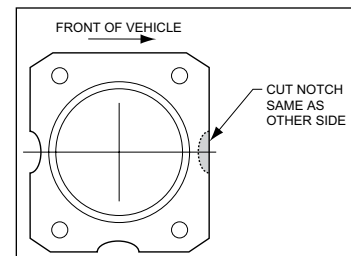

Figure 4. Flange Modifications
- Minor modifications to the axle flange may be required, see text and Figure 4 on page 4.
Axle housing flange may need to be modified by grinding. A relief, the same dimension as the OEM relief at the rear of the housing must be present at the front (of vehicle) side of the housing flange, see Figure 4. This is necessary in order to reinstall the OE wheel speed sensor onto the new backing plate assembly.